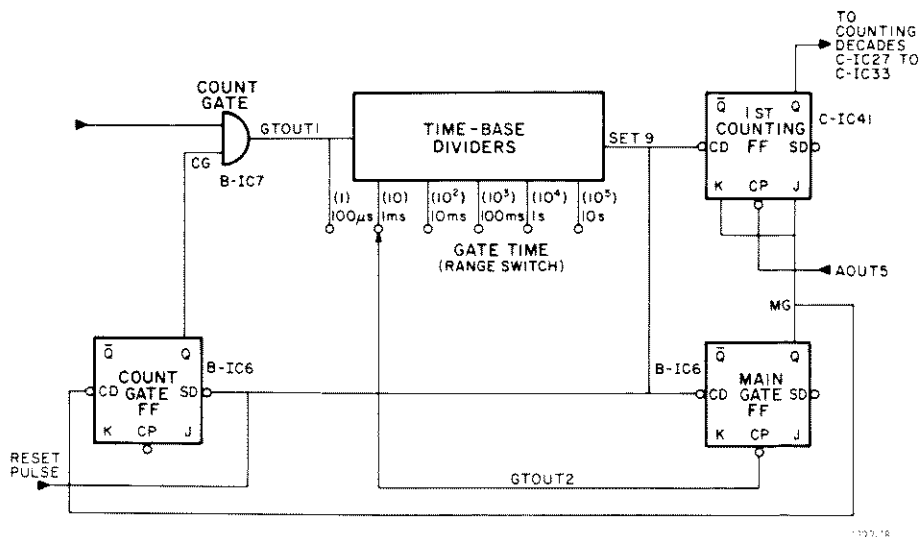

Figure 4-8. Block diagram.
Quiescent. In the FREQUENCY mode, decimal points D1, D2, D3 and D4 (Table 3-2) are used. These, along with the proper unit that is displayed in the window to the right of the digits, are selected by the position of the range switch. When the FREQUENCY pushbutton is depressed, the circuits are interconnected as shown in Figure 4-8. The GATE TIME (range) switch can be set for gate times between 100 μ s and 10s. The illustration shows a 1-ms setting.
4.9.4 Period (Figures 4-8/4-10.)